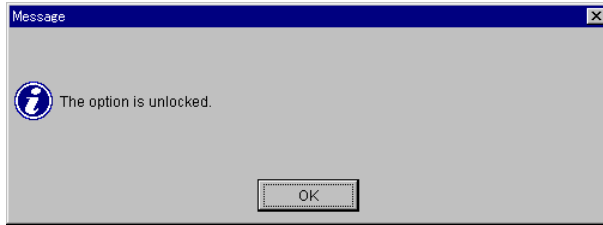

Figure 2.4 The Unlock Confirmation Message
7. A message appears, confirming that this optional feature is unlocked. Click the **OK** button (see Figure 2.4).